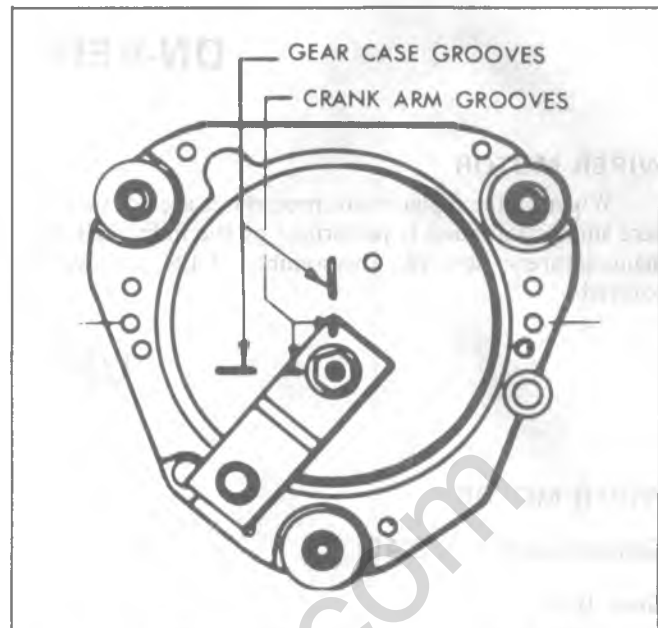

Fig. 8-47-Wiper Motor Crank Arm in Park Position
2. Place wiper in park position and install crank arm on output shaft, rotate crank so alignment marks line up with those on cover (fig. 8-47).